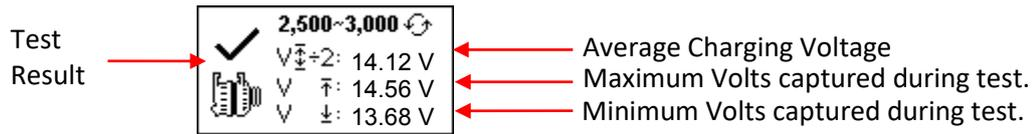
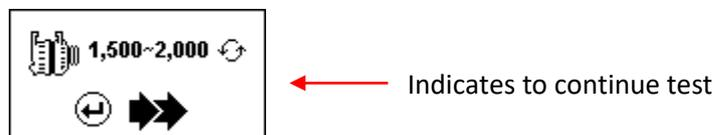

Fig.41
Fig.44
5. Then rev the engine to around 3,000 RPM and hold at this speed, the timer shown on the display (Fig. 40) will start to countdown from 10s to 0s. As soon as it reaches zero second, the results will automatically display as example shown below (Fig.41).
7. Continue from the previous test (either Fig. 41, 42 or 43); the display automatically switched to **[Electrical Load Test at 2,000 RPM]** as shown in Fig.44 below after 5 seconds to proceed the test.